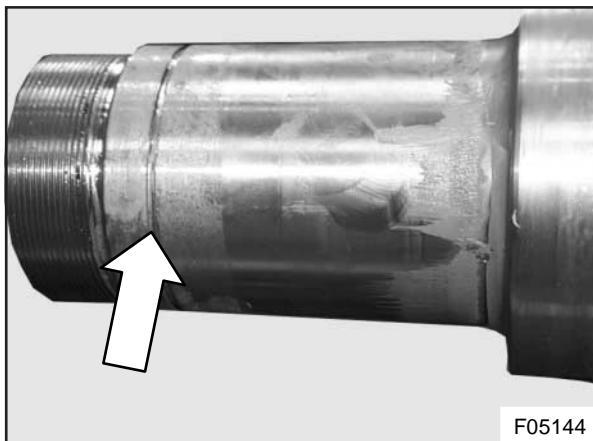

Figure 9 : O-ring groove on drive axle spindle
10. Remove the O-ring from the drive axle spindle (see Figure 9).